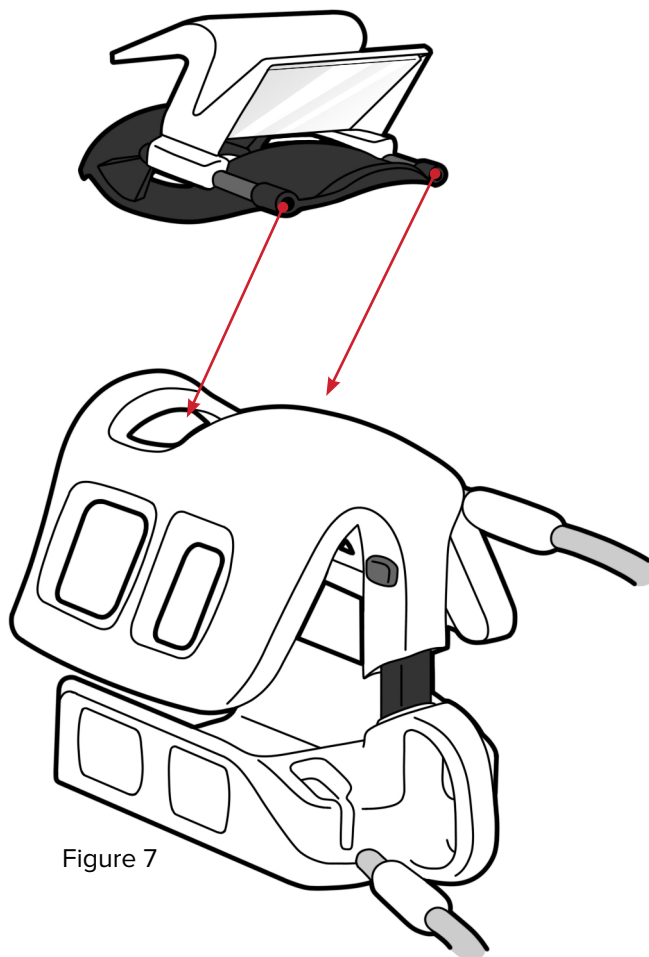

Figure 7
7. Attach Detachable Double Mirror to Top Coil using the Mirror Holder (Fig. 7) (optional):